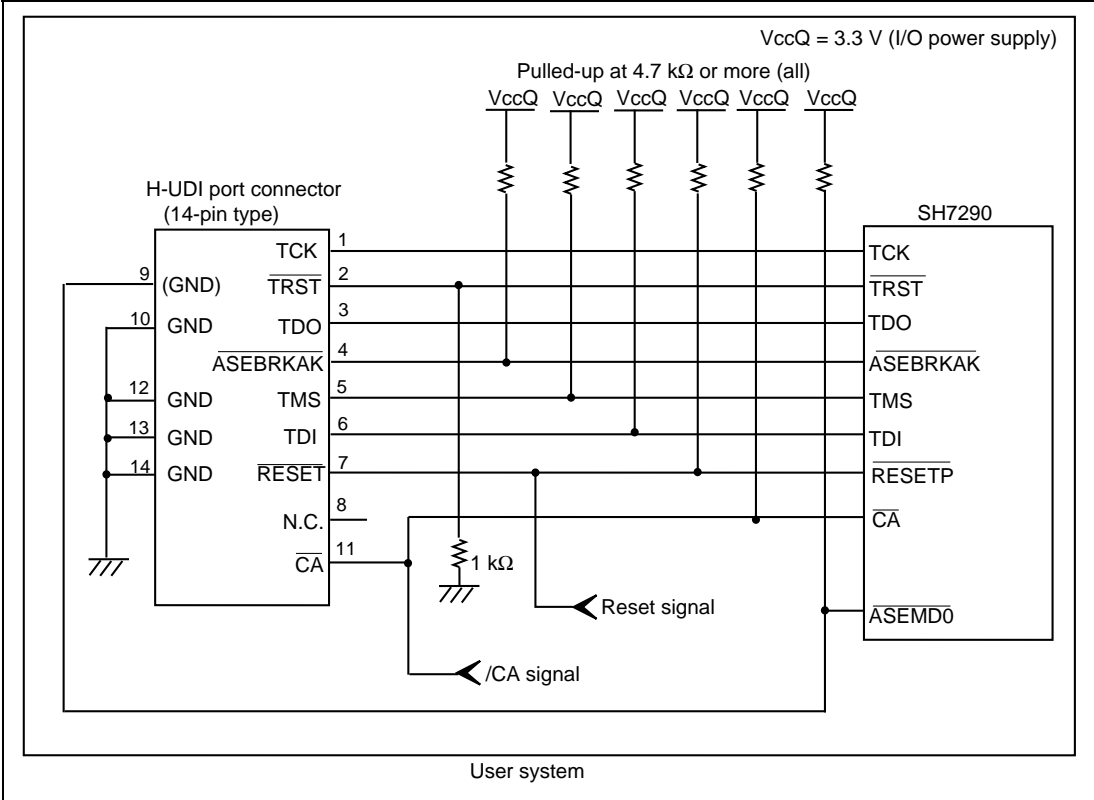

Figure 1.6 Recommended Circuit for Connection between the H-UDI Port Connector and MPU when the Emulator is in Use (14-Pin Type UVCC Not Connected)
9. Changing the emulator switches (SW2 = 0 and SW3 = 0) allows pin 11 to be used as the /CA pin. With this setting, supplying the VccQ to the UVCC pin is not available. Thus the I/O voltage level of the user system interface will be fixed to 3.3 V. Pin 8 must be N.C (open), as shown in figure 1.6.
When the circuit is connected as shown in figure 1.6, the switches of the emulator are set as SW2 = 0 and SW3 = 0. For details, refer to section 3.8, Setting the DIP Switches, in the Debugger Part of the SuperH™ Family E10A-USB Emulator User’s Manual.